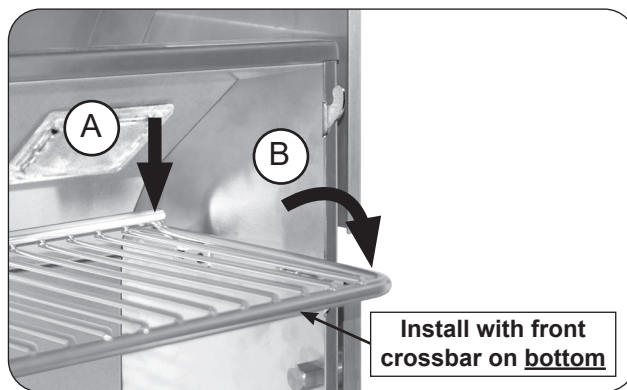

Fig. 33-2 Place warming rack for use
2. With the warming rack oriented as shown, carefully rest the rear of the rack onto the rear support plates (Fig. 33-2, A), then rest the warming rack arms onto the two lower hooks for use (Fig. 33-2, B). Repeat for the other warming rack.